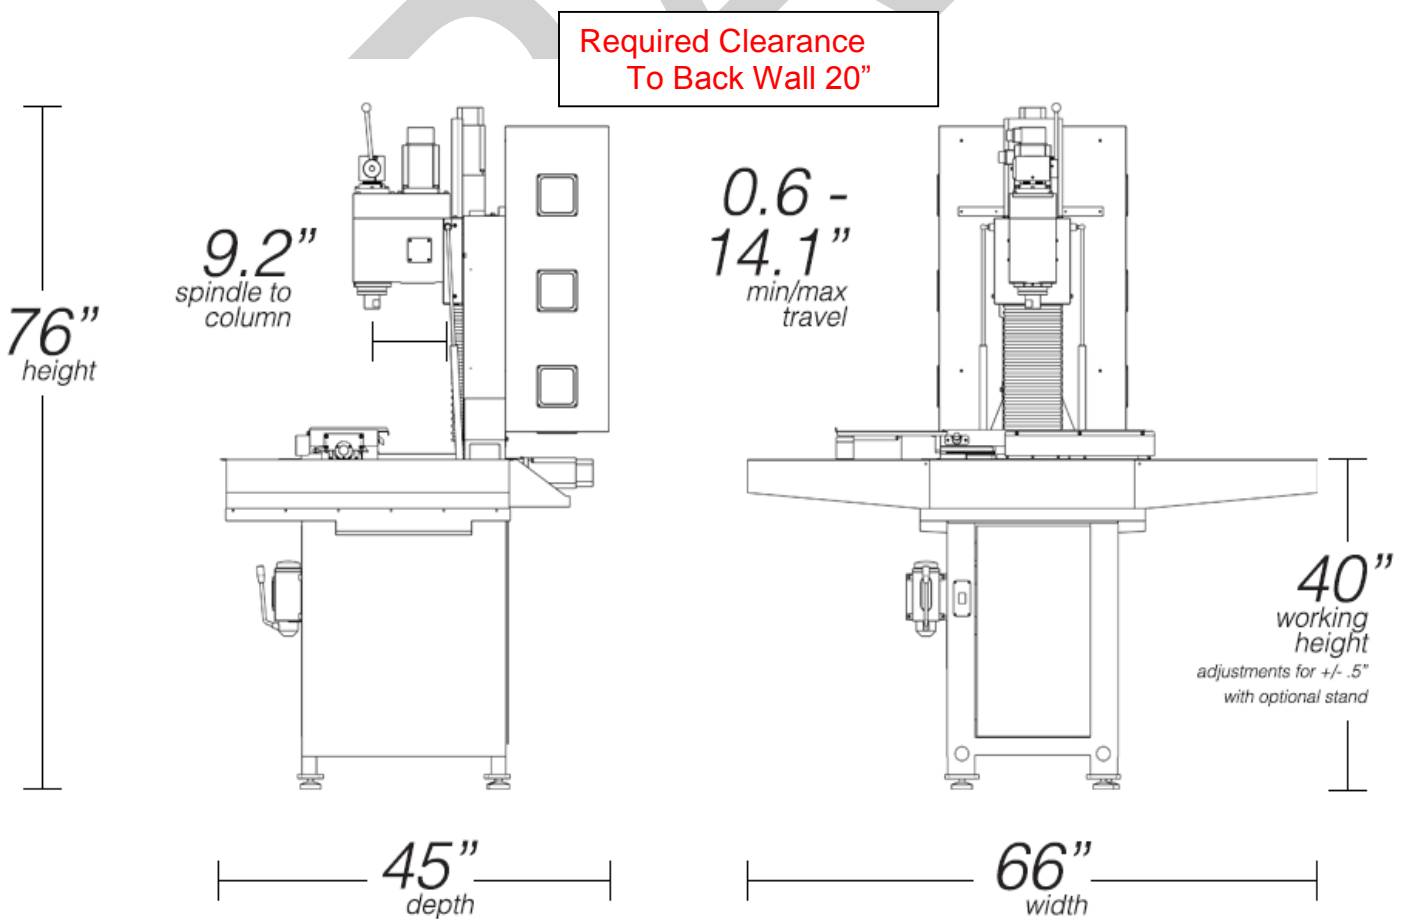

Figure 3-20 Machine Dimensions and Clearances
1. Find a relatively flat place for the installation of the Pulsar Mill and place the mill in this spot taking note of the suggested clearances (Figure 3-20 Machine Dimensions and Clearances on page 3-8).